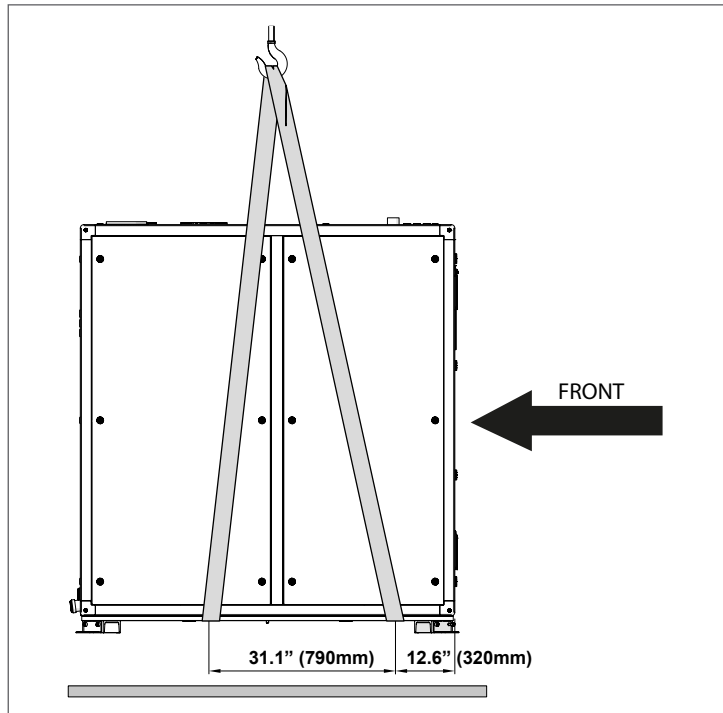

Fig. 6 Array AR1000 and AR1500 Crane Lifting Handling
**⚠ WARNING:** When lifting the boiler with crane: use bands or straps, no chains. Bands must comply with federal, state and local rules. The bands must be positioned as shown in Fig. 6 and 7.